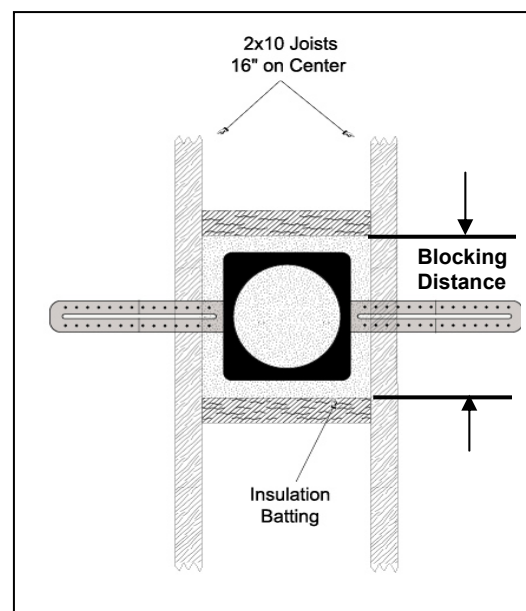

Figure 4
5. When using the On-Q Pre-Construction Bracket (**see Figure 4**), leave a coil of speaker wire on top of the bracket coiled around the speaker mounting hole. There are clips on the corner of the bracket to secure the speaker wire. Leave enough speaker wire to be able to pull the wire through the bracket and comfortably connect the wire to the speaker after the drywall is installed. Strip off 3 inches or so of the speaker cable jacket to expose the positive and negative insulated wires. Strip 3/8-1/2 inch of insulation off of these conductors.